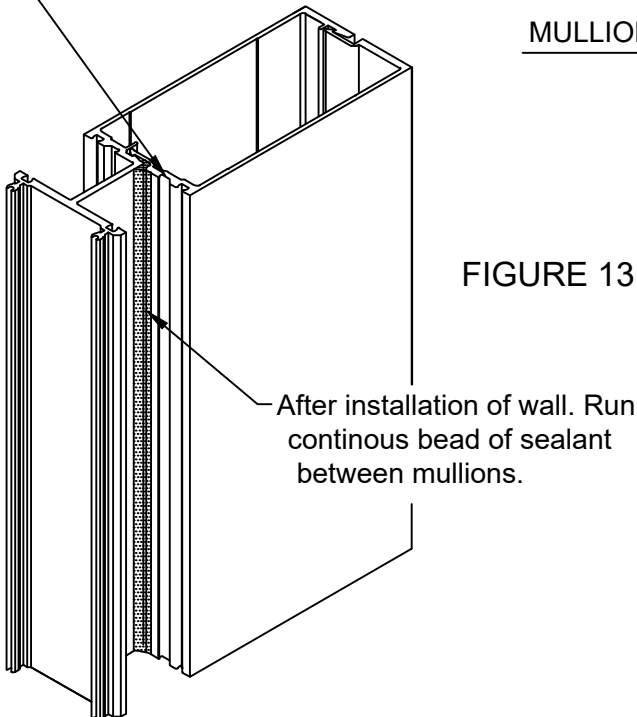

FIGURE 13
- 3.8 Apply continuous bead of sealant between all intermediate vertical mullion halves and tool into space provided. SEE FIGURE 13, sheet 17.